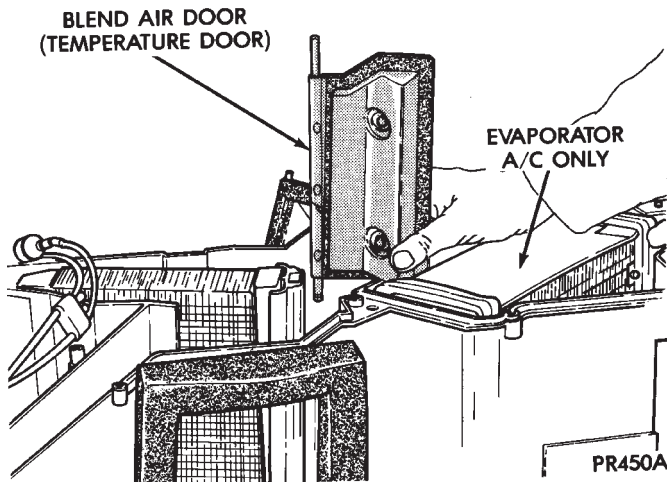

Fig. 10 Blend-Air Door Removal and Installation
(1) Remove Heater-A/C unit top cover.
(2) Remove the nut from bottom of the blend-air door pivot shaft and lift the blend-air door from the heater-A/C unit housing. (Fig. 10).